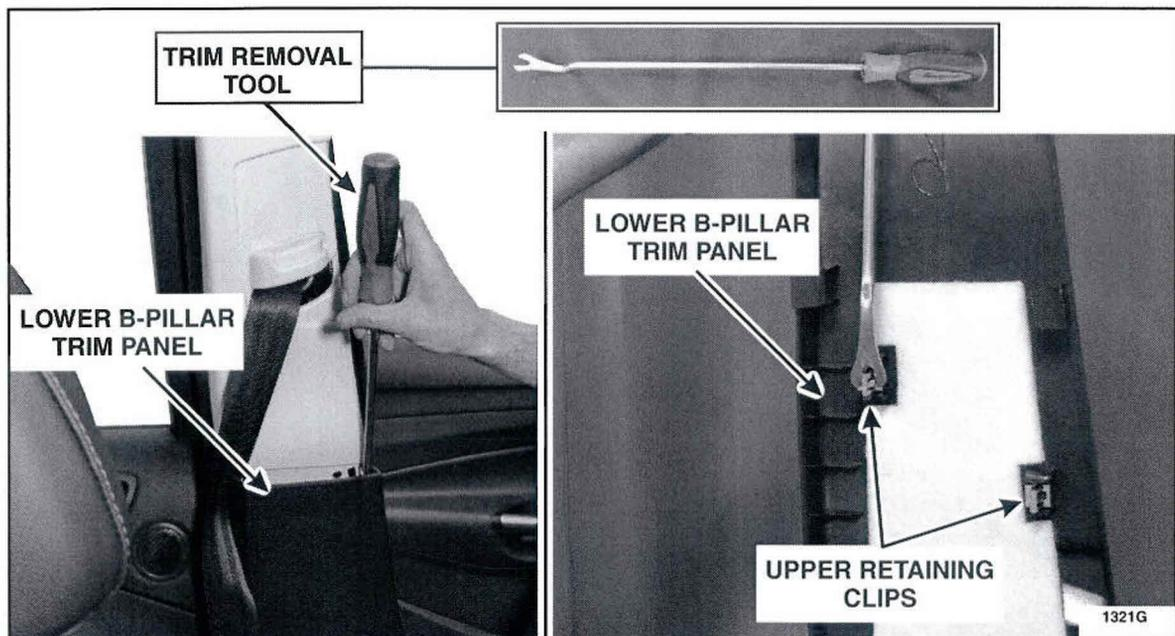

FIGURE 1
3. Position the weatherstrip away from the RH and LH B-pillar trim panels. Unclip the upper portion of the lower B-pillar trim panel from the upper B-pillar trim panel. Using a long trim tool, unclip the two upper retaining clips from the RH and LH lower B-pillar trim panels. Position the RH and LH lower B-pillar trim panels back far enough to access the RH and LH upper B-pillar screw. See Figure 1.